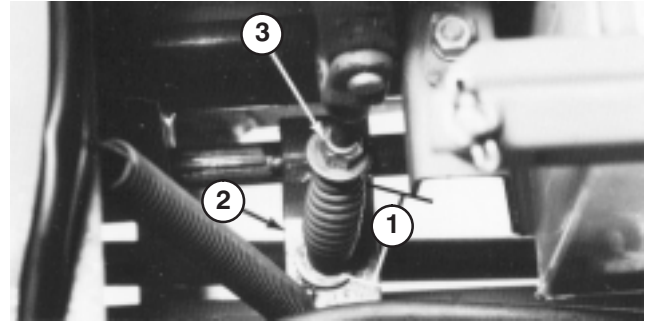

Figure 59
3. Measure length of PTO spring between flat-washers (Fig. 59). There should be a spring length of 3-3/16 in. (81 mm).
4. To adjust, hold head of adjusting screw with wrench (under PTO actuating arm) and turn locknut (Fig. 59).